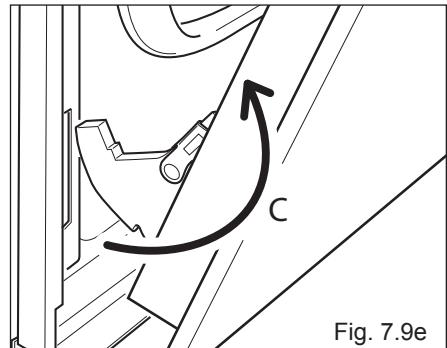

Fig. 7.9e
- Withdraw the hinge hooks from their location following arrow "C" (fig. 7.9e).